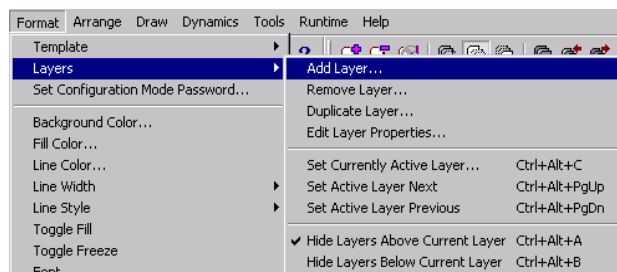

Figure 5.20
- Now we will add a new later to this display. Select **Layer→Add Layer** from the **Format** menu, as shown in **Figure 5.20**.